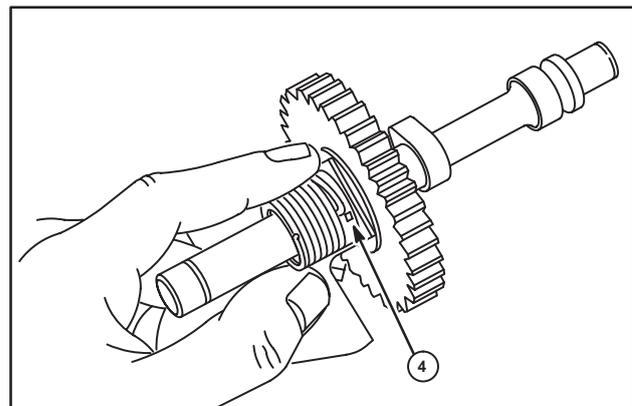

Fig. 58 – Assemble Clutch Spring
- Assemble clutch spring as shown in Fig. 58.
- Align hole in clutch sleeve (4) with tab or spring and slide on.